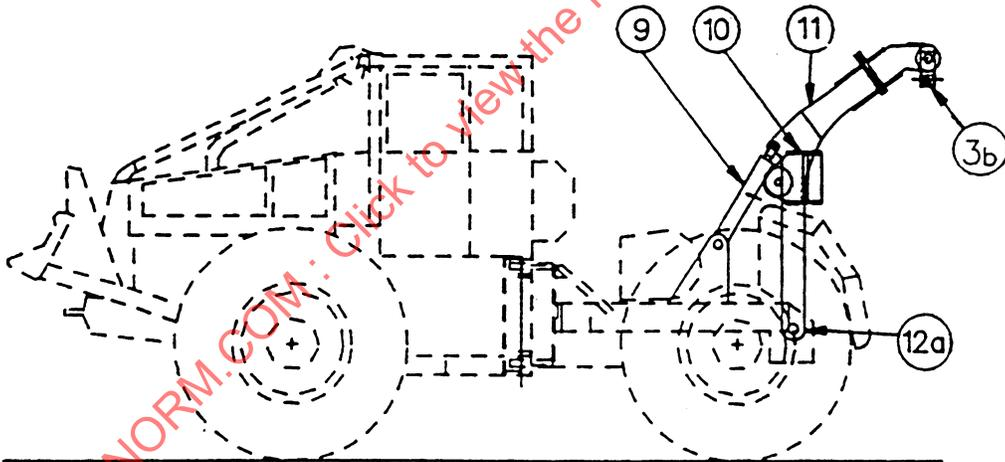

FIGURE 4—SINGLE FUNCTION BOOM ASSEMBLY—LOG BUMPER MOUNTED
3.2.1 SINGLE FUNCTION (FIGURES 4 AND 5)—This configuration consists of a boom and dual cylinders. Grapple pivot movement is through a fixed arc.